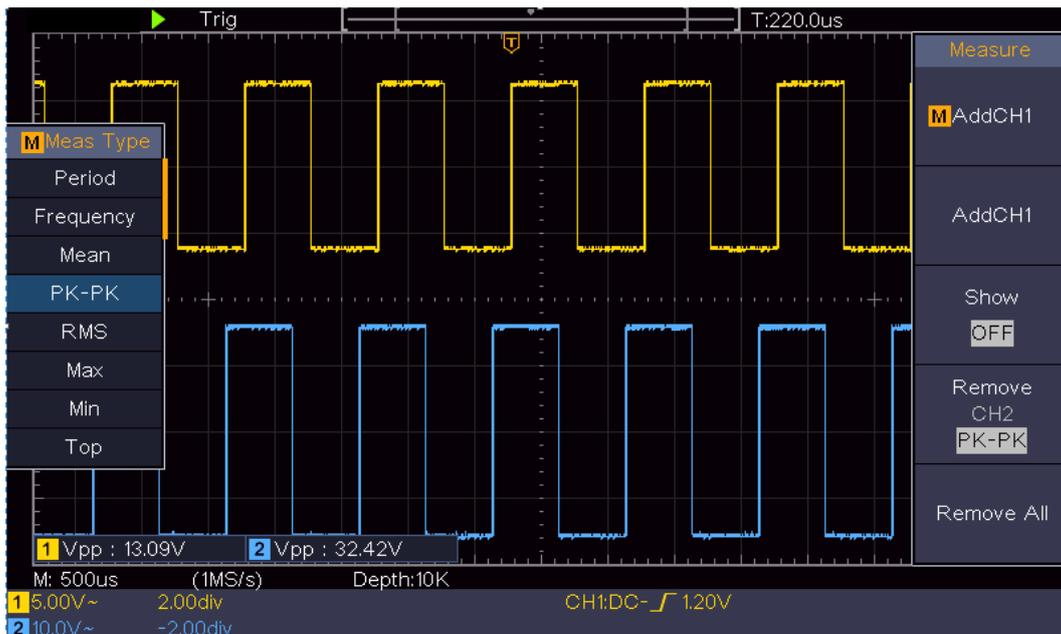

Figure 0-2 Waveform of Gain Measurement
- (1) Push the **Autoset** button and the oscilloscope will automatically adjust the waveforms of the two channels into the proper display state.
- (2) Push the **Measure** button to show the right menu.
- (3) Select **AddCH1** in the right menu.
- (4) In the left Type menu, turn the **M** knob to select **PK-PK**.
- (5) In the right menu, select **AddCH1**. The peak-to-peak type of CH1 is added.
- (6) In the right menu, select **AddCH2**. The peak-to-peak type of CH2 is added.
- (7) Read the peak-to-peak voltages of Channel 1 and Channel 2 from the bottom left of the screen (see Figure 0-2).
- (8) Calculate the amplifier gain with the following formulas.